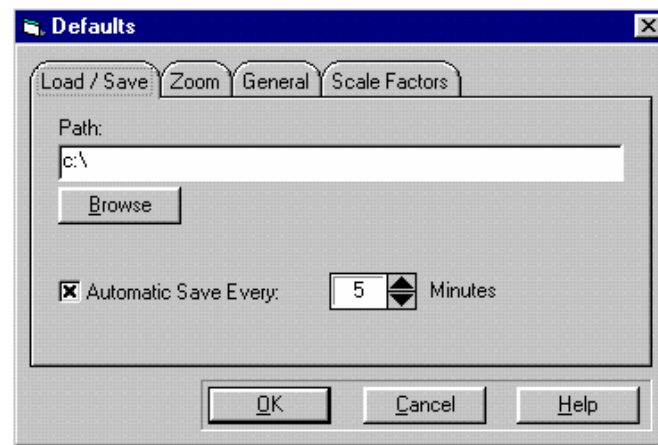

Figure 4-6: Load/Save Defaults dialogue box
- Step 5** Adjust the spin control to read 5 minutes. The Defaults dialogue box should now look similar to Figure 4-6. Click on **OK** to exit, once you have finished.